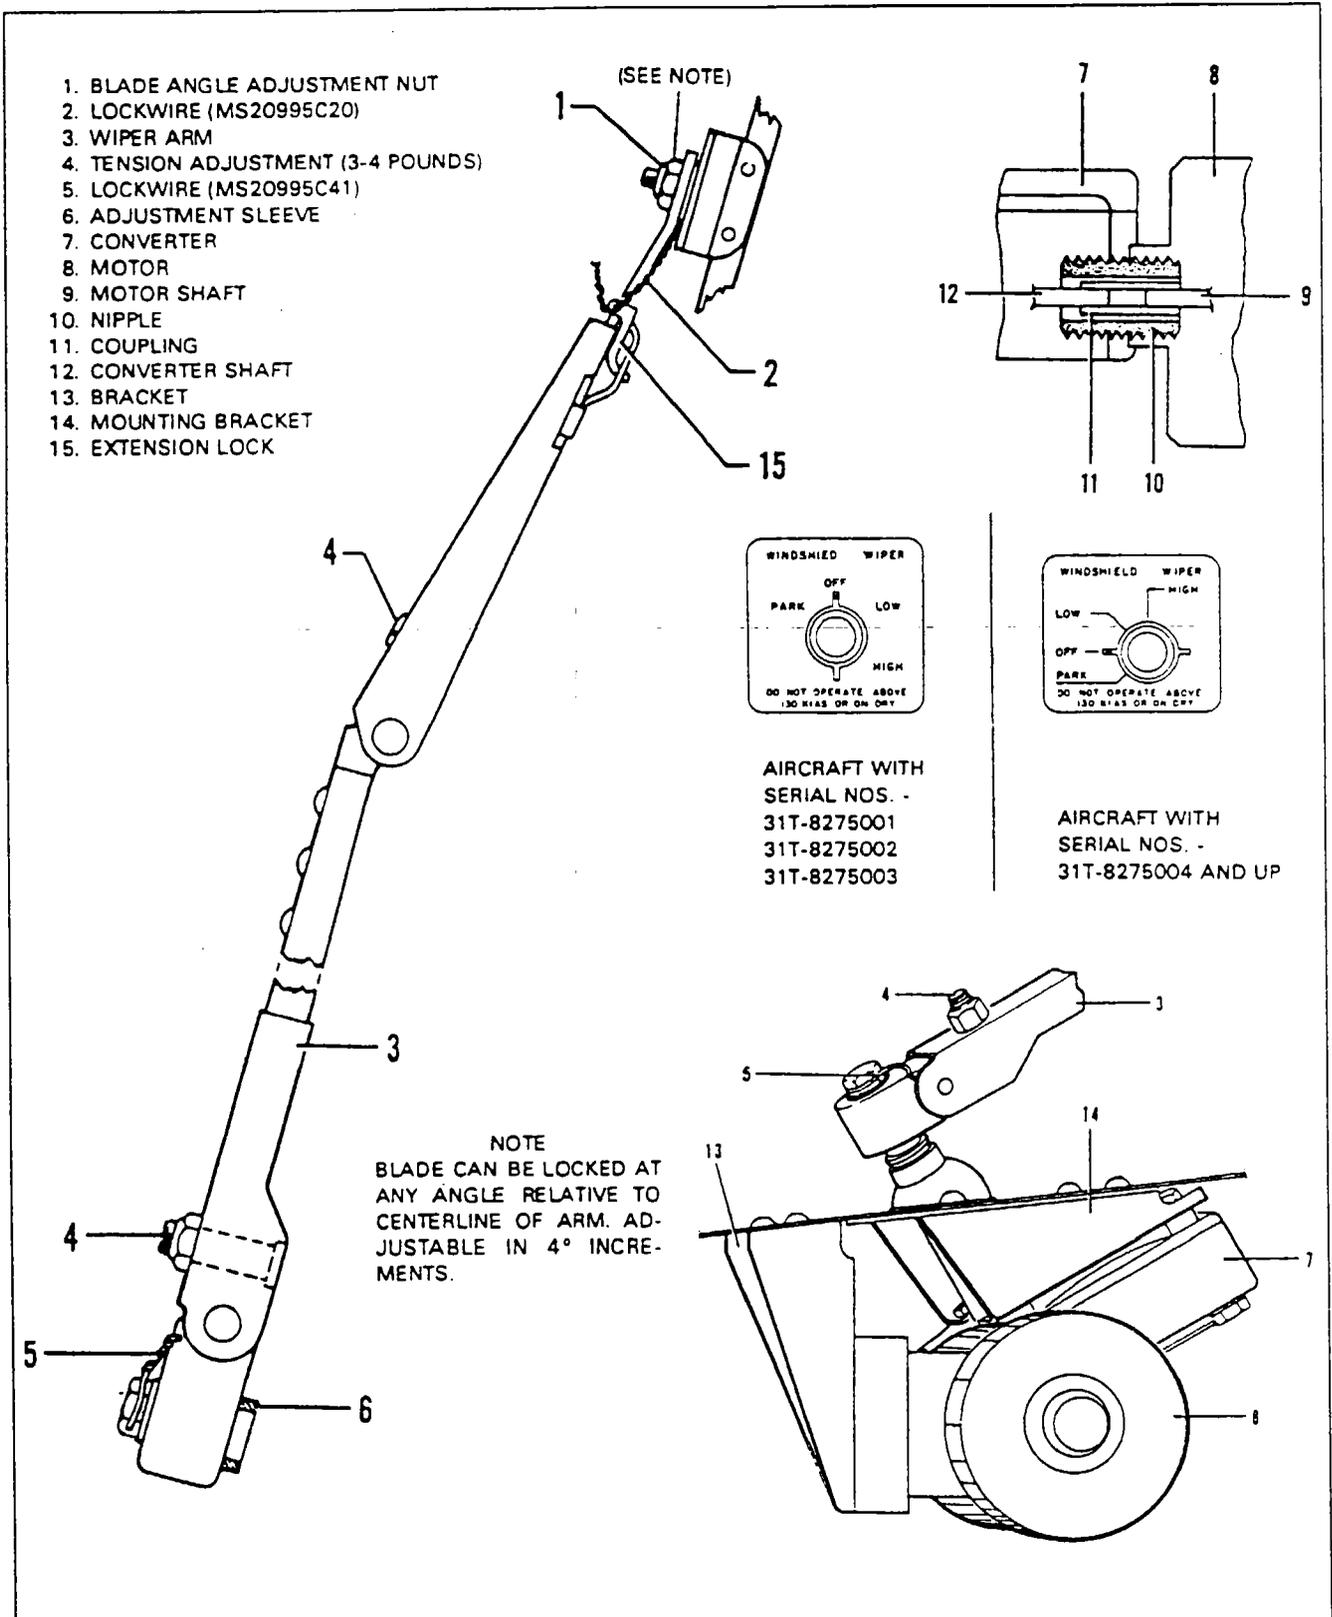

Figure 30-17. Windshield Wiper
**REMOVAL OF WIPER MECHANISM.** (Refer to Figure 30-17.)
**INSTALLATION OF WIPER MECHANISM.** (Refer to Figure 30-17.)
**WIPER BLADE AND ARM INSTALLATION.** (Refer to Figure 30-17.)
**WIPER BLADE AND ARM ADJUSTMENT.** (Refer to Figure 30-17.)